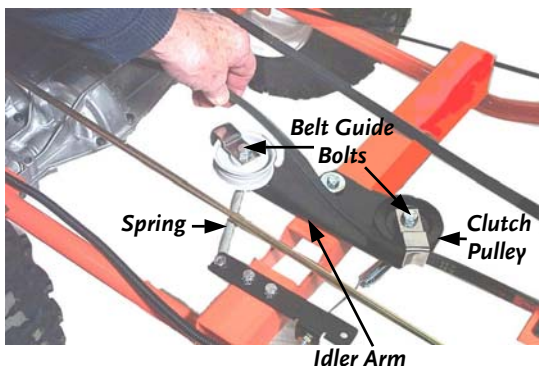
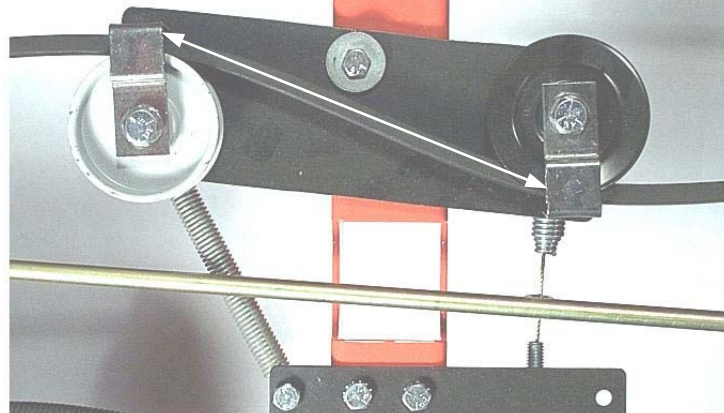

Figure 16
Figure 18
4. Loosen the Belt Guide Bolts using a 9/16" socket (**Figure 16**).
5. Pull on the Idler Arm and Spring to lessen the tension on the Belt and slide the Belt from the Idler Arm and Clutch Pulley (**Figure 16**).
9. Squeeze the Wheel Clutch Lever to engage the Clutch. The Belt Guides should be perpendicular to and not touching the Belt (**Figure 18**). With the Wheel Clutch engaged, adjust the Guides as necessary and tighten the Guide Bolts (**Figure 16**) with the 9/16" socket.